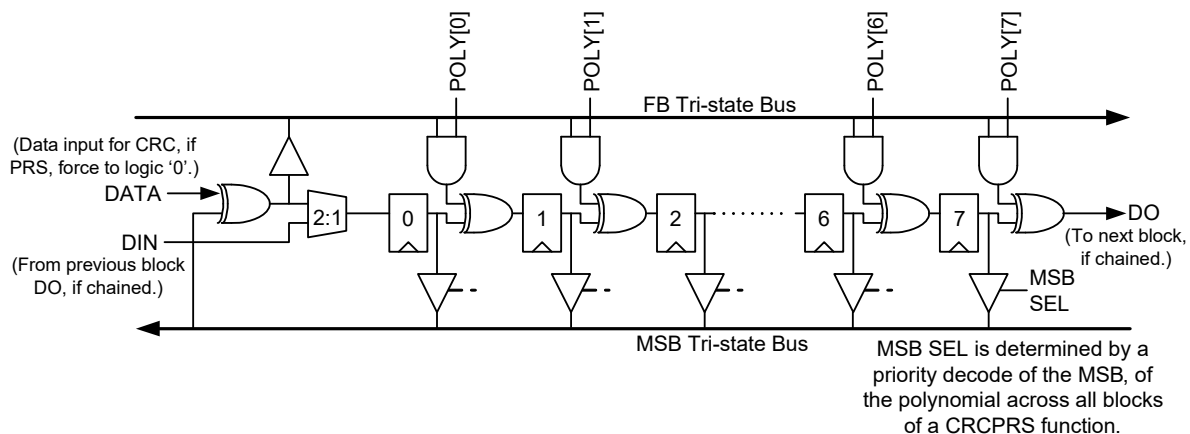

Figure 17-4. CRCPRS LFSR Structure
A Cyclic Redundancy Check/Pseudo Random Sequence (CRCPRS) function consists of a polynomial register, a **Linear Feedback Shift Register (LFSR)**, and a seed register. (See Figure 17-4 on page 329.) When the CRCPRS block is disabled and a **seed value** is written into DR2, the seed value is also loaded into DR0. When the CRCPRS is enabled, and synchronous clock and data are applied to the inputs, a CRC is computed on the **serial** data input stream. When the data input is forced to '0', then the block functions as a pseudo random sequencer (PRS) generator with the output data generated at the clock rate. The most significant bit (MSb) of the CRCPRS function is the primary output.
The LSFR (Linear Feedback Shift register) structure, as shown in Figure 17-4, is implemented as a modular **shift** register generator. The least significant block in the chain inputs the MSb and XORs it with the DATA input, in the case of CRC computation. For PRS computation, the DATA input is forced to logic 0 (by input selection); and therefore, the MSb bus is directly connected to the FB bus. In the case of a chained block, the data input (DIN) comes directly from the data output (DO) of the LFSR in the previous block. The MSb selection, derived from the priority decode of the polynomial, enables one of the tri-state drivers to drive the MSb bus.